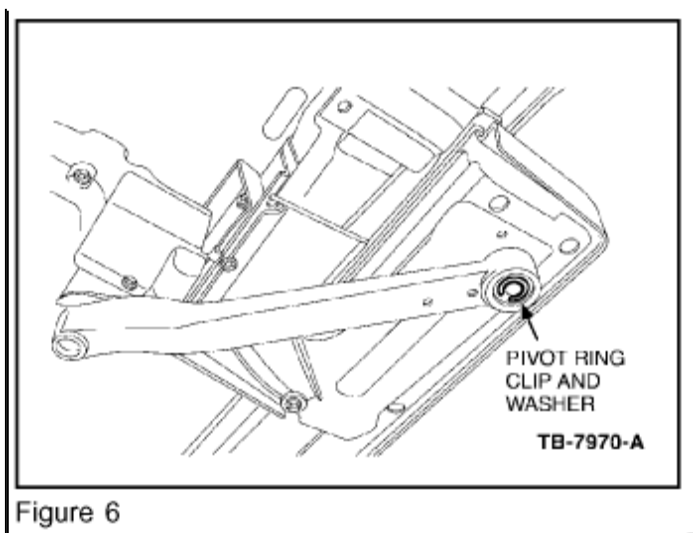

Figure 6
5. Remove the outer pivot ring clip and washer (Figure 6).